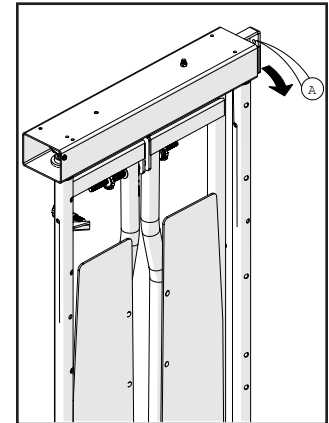
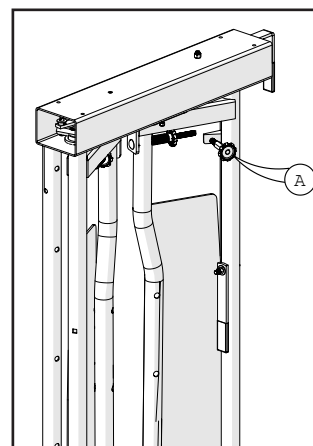

Figure 3: Control handle adjustment
Figure 4: Loading position
3. Adjusting the head opening can be done by pulling the control handle (a) on the side of the headgate toward the front of the headgate as shown (Figure 3). This allows the doors to swing into the loading position (Figure 4).
4. With the doors in the loading position, turn the aluminum knob (a) on the right hand door to widen, or narrow the head opening (Figure 4).
4. Pull the control handle (a) towards the front of the headgate as shown (Figure 3, page 4) and the doors will swing into the loading position for the next animal.